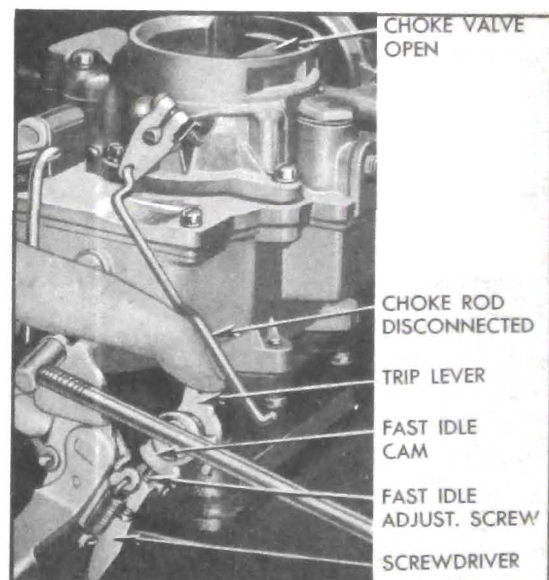

Figure 3-26—Setting Carter Fast Idle—Carburetor on Engine
6. If carburetor is installed, warm engine up to normal operating temperature and connect a tachometer to register engine speed. Disconnect fast idle connector rod from cam trip lever so that cam may be held in "cold" position while engine is running with choke valve fully open. See figure 3-26.
(a) If carburetor is on engine, turn adjustment screw to obtain engine speed of 1200 RPM. See figure 3-26.